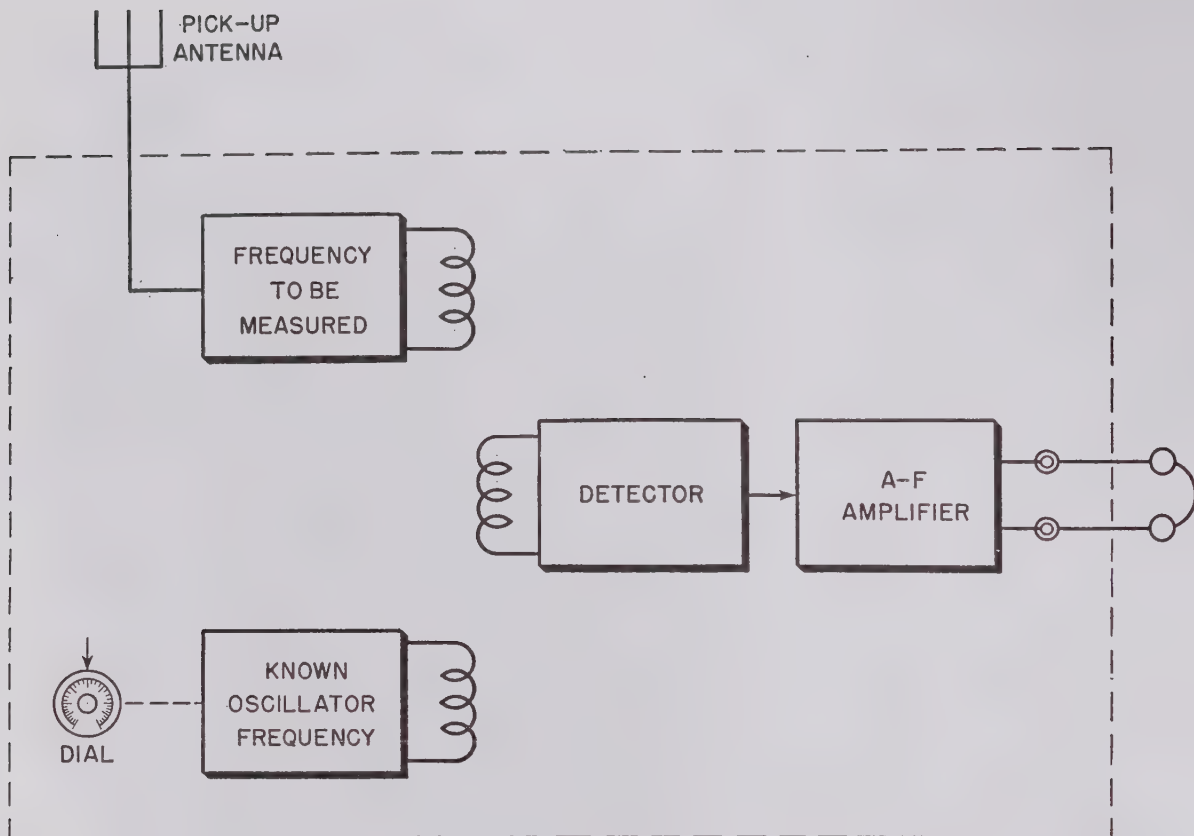

Figure 7. Block diagram of basic heterodyne frequency meter.
- (1) When greater stability and accuracy are desired in direct frequency measurements, the *heterodyne*, or *beat*, frequency meter is used. The basic heterodyne meter (fig. 7) consists of a frequency-calibrated oscillator which beats, or heterodynes, against the frequency to be measured. The pick-up antenna is coupled loosely to the device under test. The calibrated oscil-